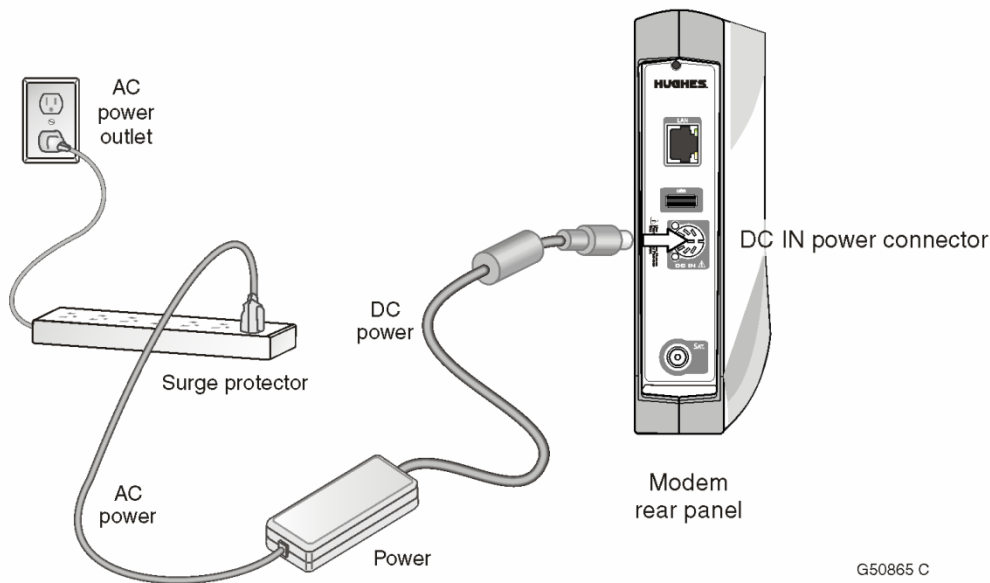

Figure 6: Powering up the modem
2. Connect the DC power cord to the modem's DC IN connector, as shown in Figure 6. Connect the AC power cord to the three-prong connector on the modem's power supply.